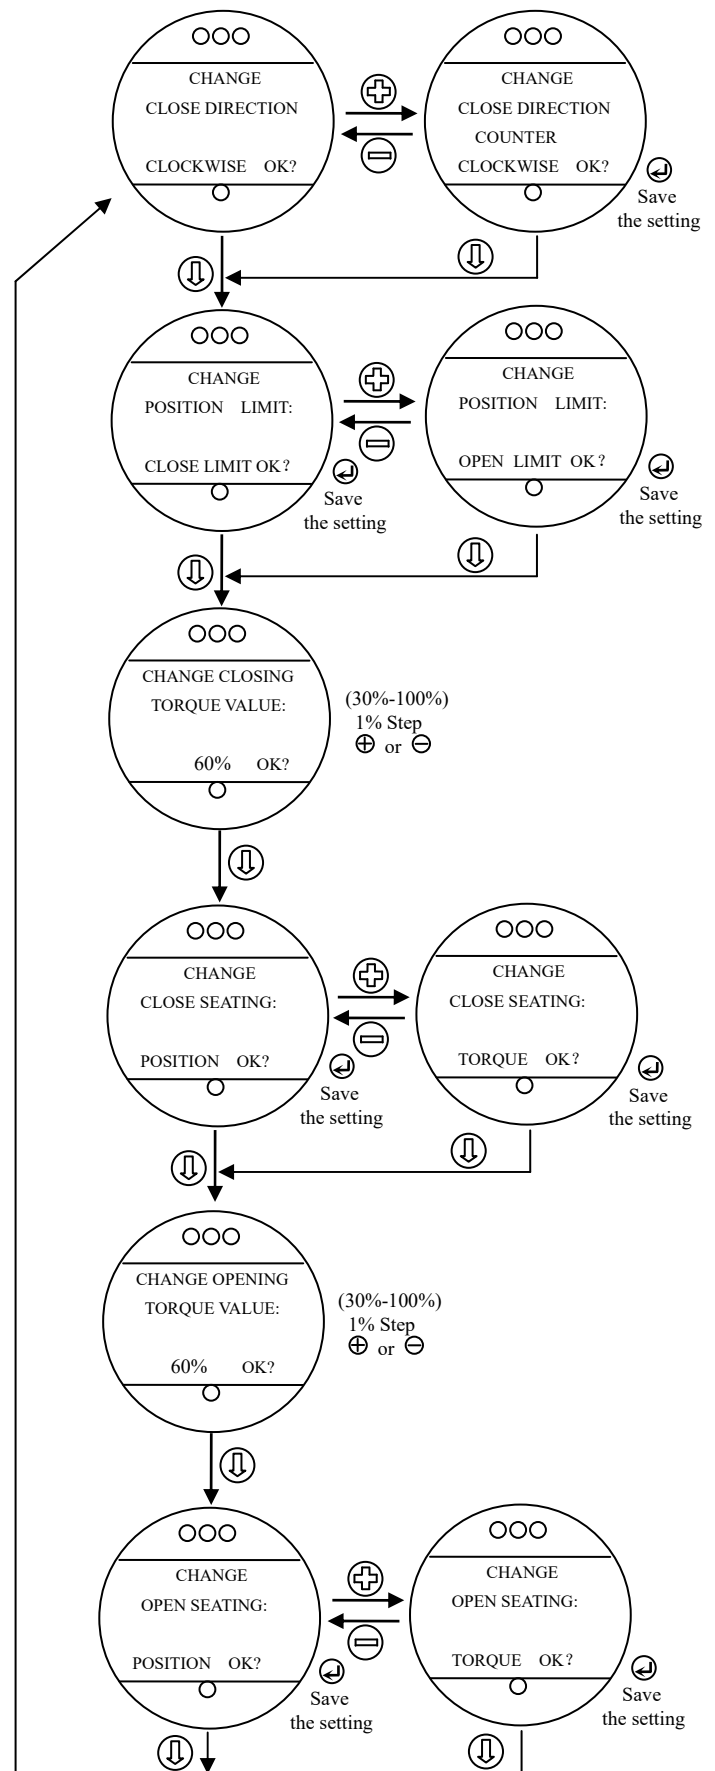

Fig. 4-2 First setup
2. Enter the “**SETUP**” mode, switch the menu page to **CHANGE CLOSE DIRECTION**, see figure 4-2, then choose **CLOCKWISE** or **COUNTERCLOCKWISE** which is decided by the result of check above. Press “**↵**” key to save.
3. Enter the the “**SETUP**” mode, switch the menu page to CHANGE CLOSE SEATING, see figure 4-2, then choose TORQUE or POSITION by pressing “**+**” or “**-**” key. Press the “**↵**” for saving and the “**↶**” to the previous menu.
3. Enter the “**SETUP**” mode, switch the menu page to CHANGE CLOSE SEATING, see figure 4-2, then choose TORQUE or POSITION by pressing “**+**” or “**-**” key. Press the “**↵**” to save